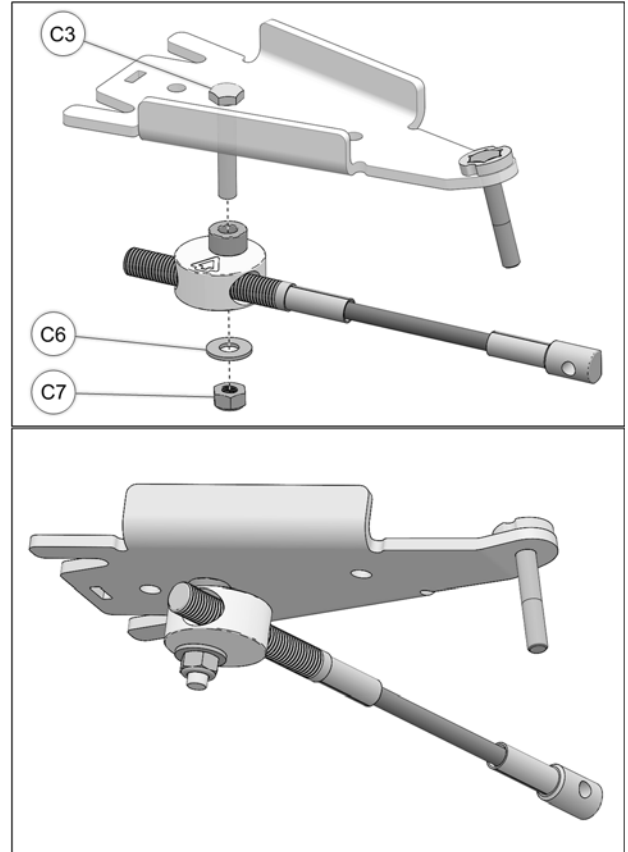

Fig. 20
- Slide aluminum disk of steering limiter cable assembly over bolt (C3) previously installed in step 5. Use supplied washer (C6) and nut (C7) to secure steering limiter assembly in place. Tighten nut to 50 N•m [37 lb•ft]. Refer to Fig. 20